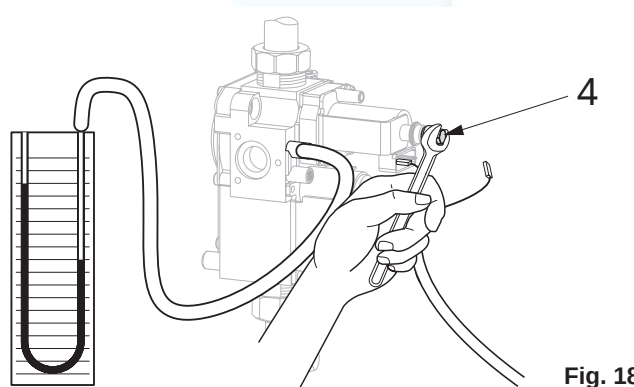

Fig. 18
- disconnect a valve power supply cable (fig. 18)
- put pressure on screw 4 by using a 5 wrench, while holding nut 3 (fig. 18) and adjust the pressure to the value envisaged in the table